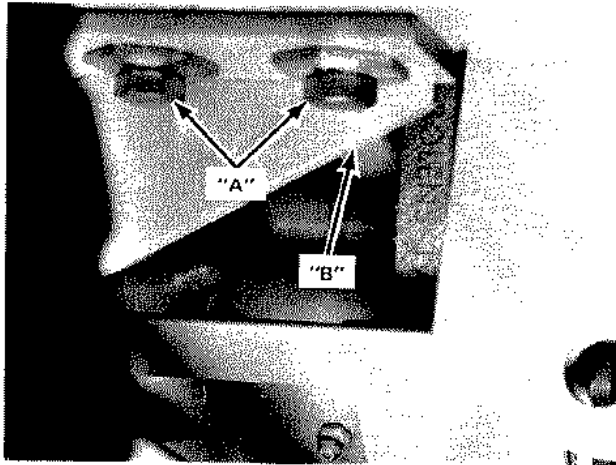

Figure 15
- A. Loosen capscrews "A", Figure 15.
- B. Move Stop assemblies "B," Figures 15 and 16, up against Front axle assembly "A," Figure 15.